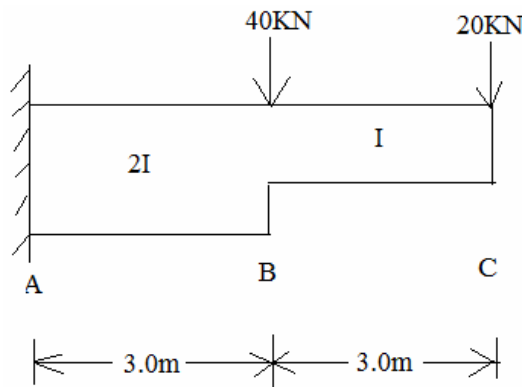

Fig.4
6. Find the slope and deflection at the points 'B' & 'C' of a cantilever beam by Moment area method. (Fig.4) [15]